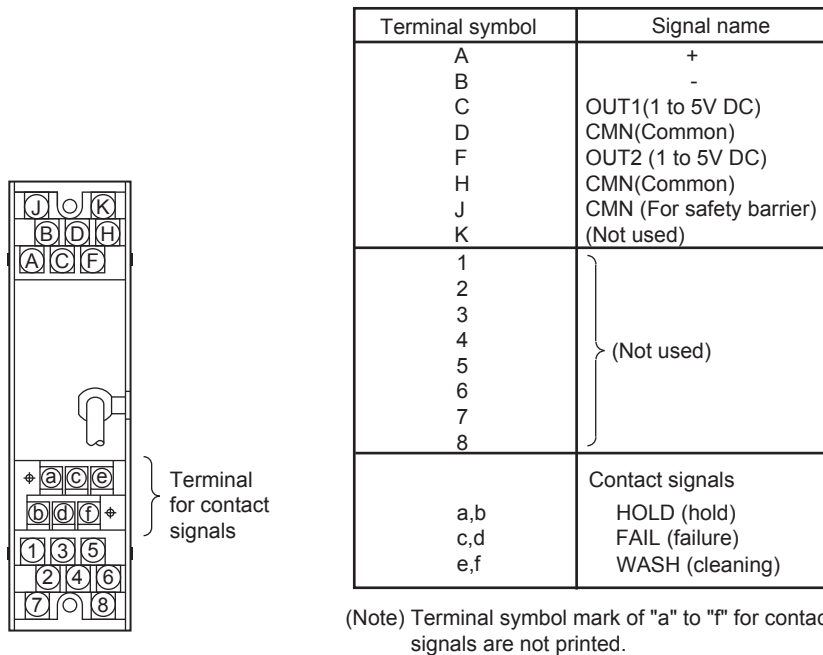
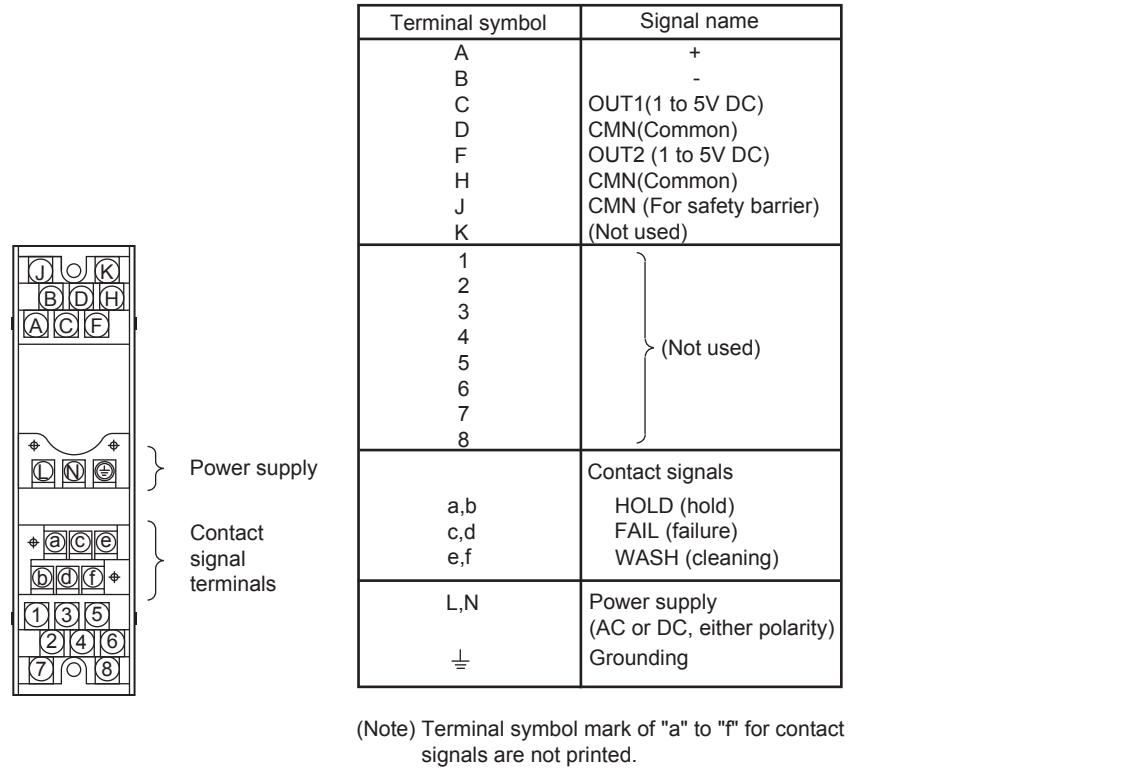

Figure 2.11 Terminal Assignment Diagram and Wiring (For Units with a Power Cord)
Figure 2.12 Terminal Assignment Diagram and Wiring (For Units with Terminal for Power connection (/TB))
- (1) Mount round M4-screw crimp terminal lugs on the wires to be connected to the terminals.
- (2) If the internal unit is already installed in the rack case, pull the terminal cover down away from the terminals and connect the wires. Wiring to the terminals on the internal unit such as wiring to the contact signal terminals should also be done with their terminal covers removed.
- (3) Refer to Figure 2.11 or Figure 2.12 to identify the individual terminals to which to connect the wiring.
- (4) After completing wiring, be sure to reinstall the contact signal terminal cover and the internal unit serves also as a lock to prevent the internal unit from being removed from the case accidentally. Check that the internal unit is firmly inserted.